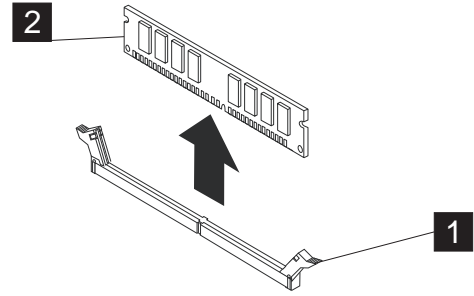

Figure 19. DIMM Memory-module retainer clips in the open position.
4. Lift the memory module **2** straight up to remove it from the memory connector. See Figure 19 on page 27.